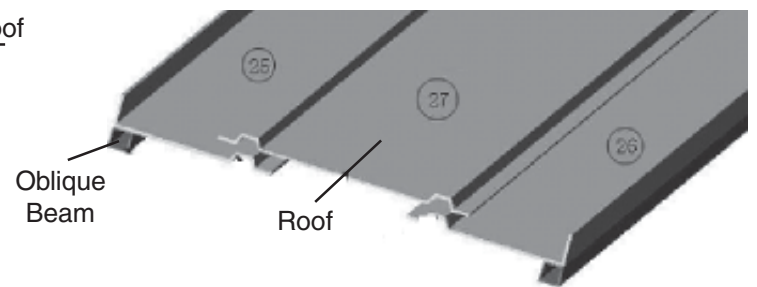

Figure 6
- b. The middle roof panel is installed on top of the side roof panels. Connect the extrusions as in Figure 6.